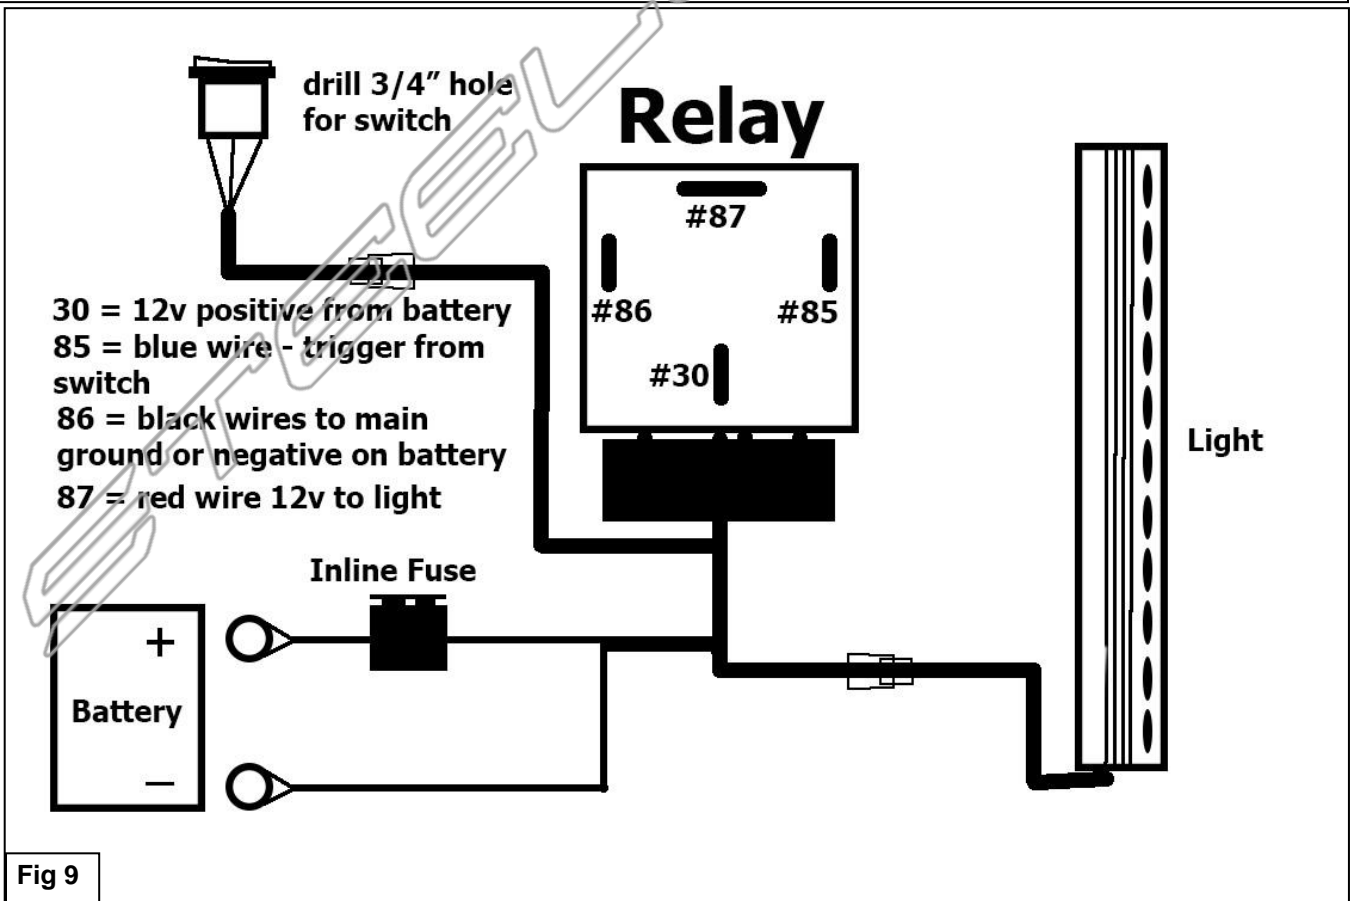

Fig 9
10. Unwrap preassembled wiring harness, **(Figure 9)**. Disconnect the plug in the harness leading to the lighted switch. Locate suitable mounting location for switch. Drill 3/4" hole in panel to mount switch.